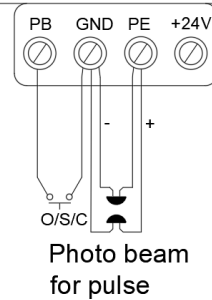
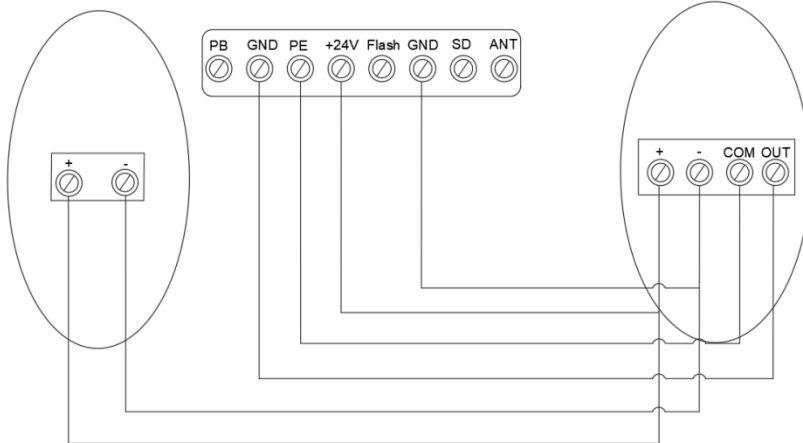

Figure 26
Figure 27
The O/S/C facility can be used for an external push button switch to operate the opener. The switch must have voltage free normally open NC contacts (Fig. 26)
Photo beam connection (optional) – Fig.26, Fig.27
Switch control connection (optional) – Fig.26
1. The O/S/C interfaces available. (Fig. 26)